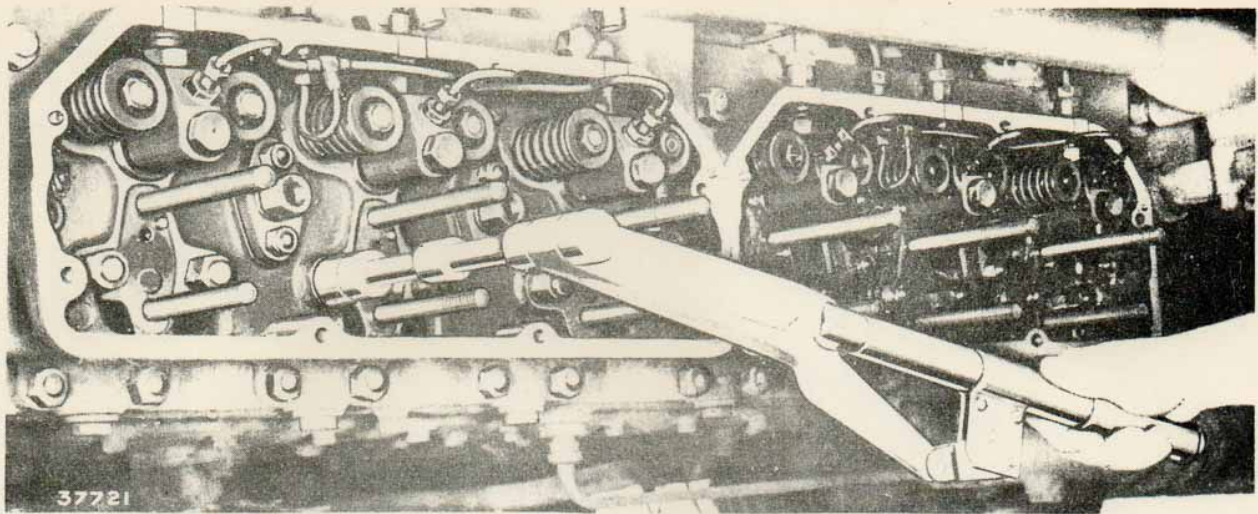
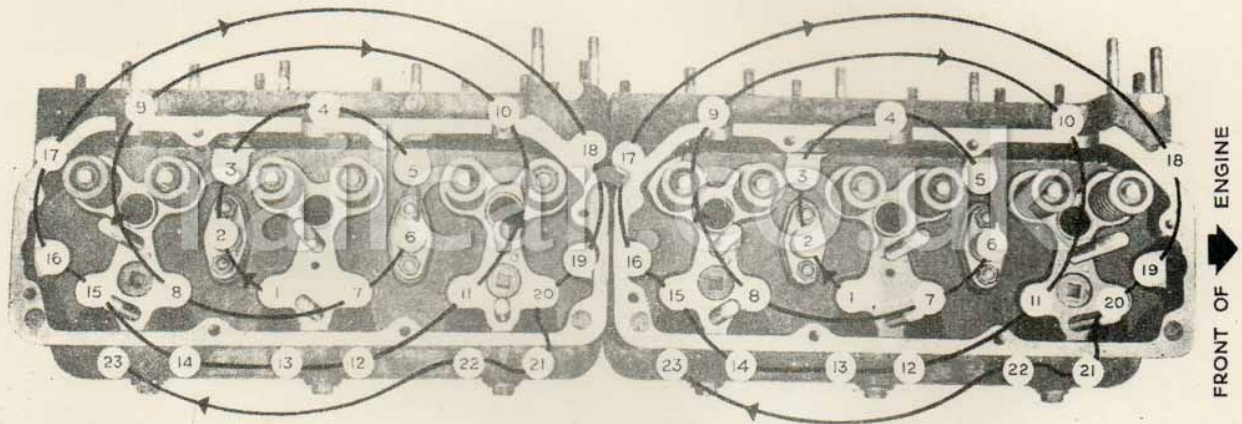

FIG. 4. TIGHTENING HEAD NUTS WITH TORSION SPANNER.
FIG. 5. CORRECT SEQUENCE OF TIGHTENING HEAD NUTS.
8. To ensure freedom from distortion and gasket leaks, the cylinder head nuts must be tightened down evenly in a definite order, starting at the centre and working outwards, as shown in Fig.5. First tighten down with a short spanner, then with a torsion spanner set at 150 to 160 lb./ft. (20.5 kg./m. to 22 kg./m.), see Fig.4. A torsion spanner set at 80 to 85 lb./ft. (11 to 11.7 kg./m.) should also be used for the 7/16 in. dia., B.S.F. nuts along the right-hand of the cylinder-heads.